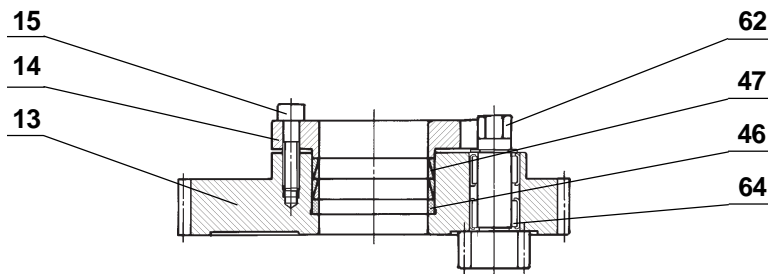

FIG.17.2
#### 17.12 Indexing Gear Sub-assembly (fig 17.2):
Assemble all components as shown in fig 17.2. Tighten bolts (15) with a light force. In case of models BTP-80 and BTP-100, pinion assembly should also be in place.